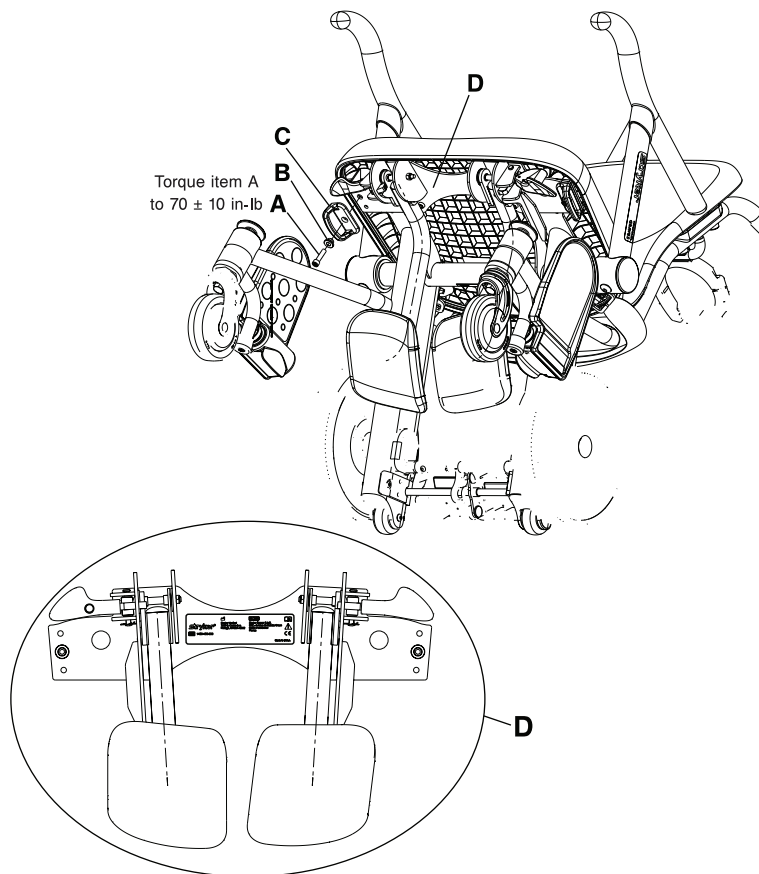

Figure 1-36: Leg rest weldment
3. If the unit is equipped with the foley bag hook, use a 3/16" hex wrench to remove the flange button head cap screws (A) that secure the foley bag hook on both sides of the chair frame. Discard the foley bag hooks (C) and screws (A) (Figure 1-36 on page 1-54).
4. Position the supplied leg rest mounting plate weldment (1460-166-0 05) (D) on the bottom of the chair frame (Figure 1-36 on page 1-54).
5. Align the positioning tabs on the bottom of the supplied foley bag hooks (1460-001-0 51) (C) with the pilot holes on the leg rest mounting plate weldment (Figure 1-36 on page 1-54).
6. Insert the supplied foley hook spacer (1460-116-025) (B) into the hole on the foley bag hook (Figure 1-36 on page 1-54).
7. Using a 1/4" hex wrench and the supplied socket head cap screws (0004-575-000) (A), secure the foley bag hook and the leg rest mounting plate weldment to the bottom of the chair frame on both sides. Using a 3/8" drive torque wrench, torque the screws to  $70 \pm 10$  in-lb.
4. Using a 1/4" hex wrench, remove the socket head cap screws (A) that secure the foley bag hook and the leg rest mounting plate weldment to both sides of the chair frame. Remove the leg rest mounting plate weldment (D), the foley hook spacer (B), and the foley bag hook (C) (Figure 1-36 on page 1-54). Save the leg rest mounting plate weldment, screws, spacers, and foley bag hooks.